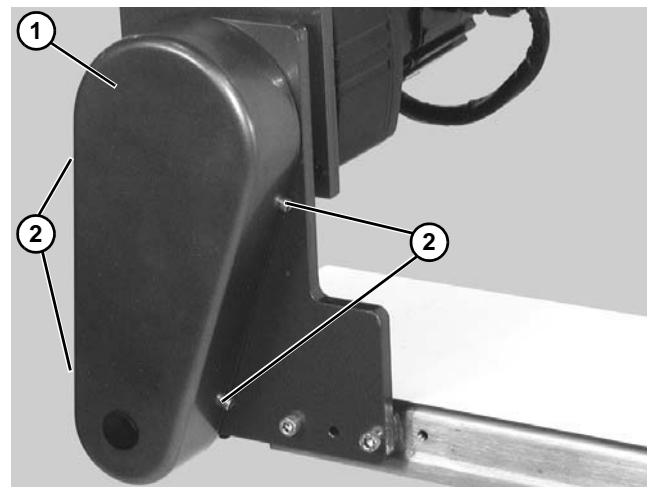

Figure 15
10. Install cover (Figure 15, item 1) with four screws (Figure 15, item 2). Tighten to 35 in-lb (4 N-m).
- Install cover (**Figure 15, item 2**) with four screws (**Figure 15, item 1**). Tighten to 35 in-lb (4 N-m).